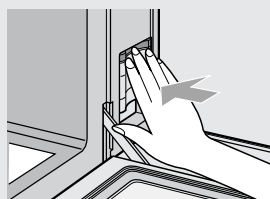

Figure 3
5. Install the reservoir by pushing firmly. (Figure 3)